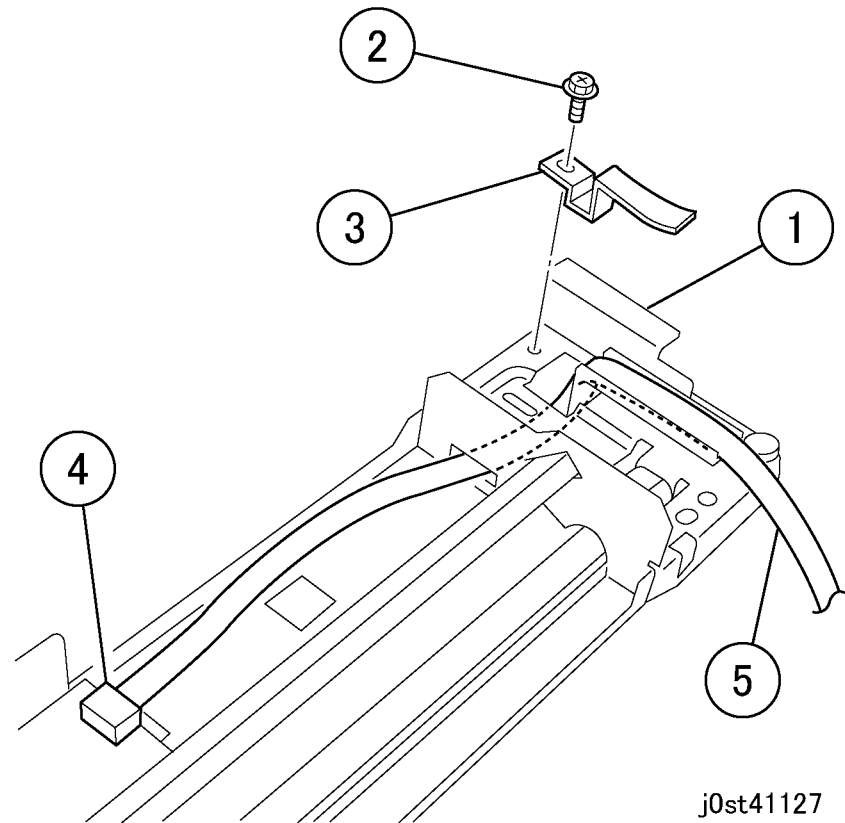

Figure 6 Removing the Lamp Wire Harness (j0st41127)
4. Remove the Lamp Wire Harness from the Full Rate Carriage. (Figure 6)